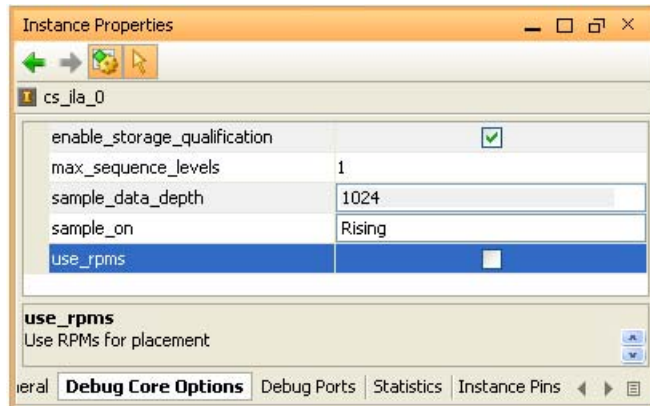

Figure 12-7: Instance Properties - Debug Core
2. In the Instance Properties view, select **Debug Core Options** to view and configure the debug core parameters as shown in Figure 12-7, page 394.